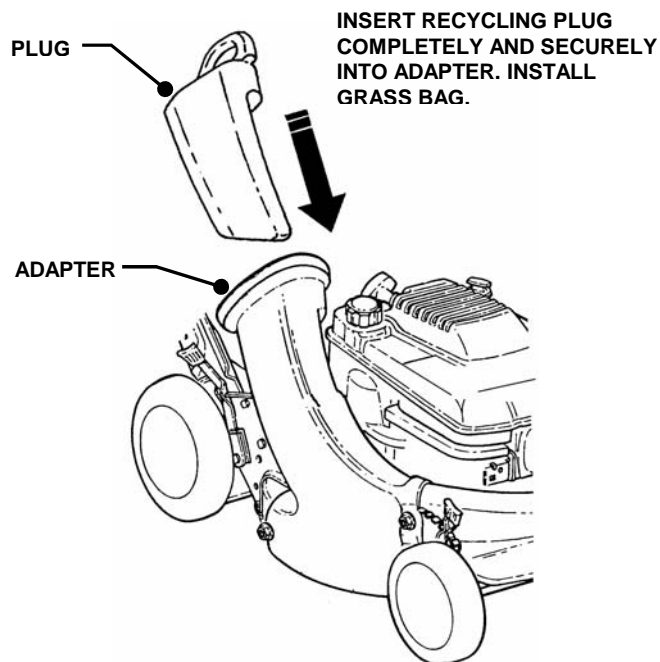

FIGURE 2.8
STEP 1: Once adapter has been installed, recycling may be desired. Insert recycling plug completely and securely into adapter. Install grass bag. See Figure 2.8.